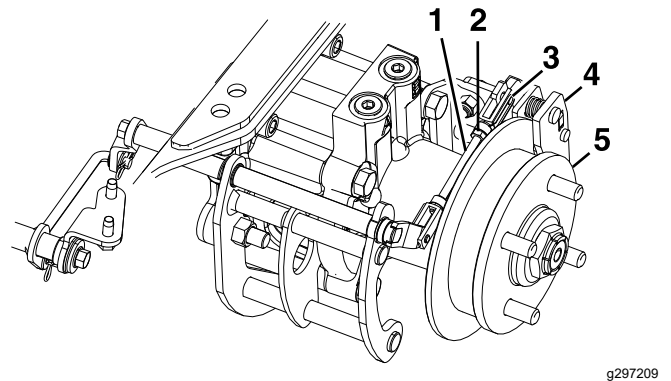

Figure 89
8. Remove the spring clevis pin from the rear linkage and caliper (Figure 89).
12. Tighten the jam nut on the rear linkage (Figure 89).